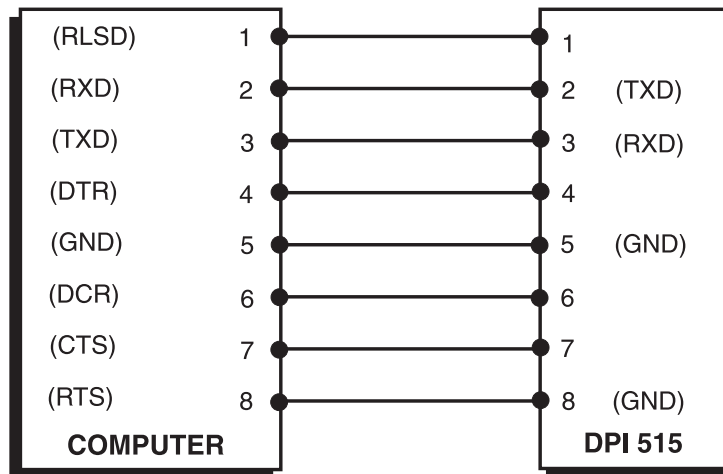

Figure 2-9, RS232 9-way Connections (Hardware Handshaking)
- Connect the cable between the computer communications port and the instrument's 9-way, D-type, RS232 port connector as shown in Figure 2-9.